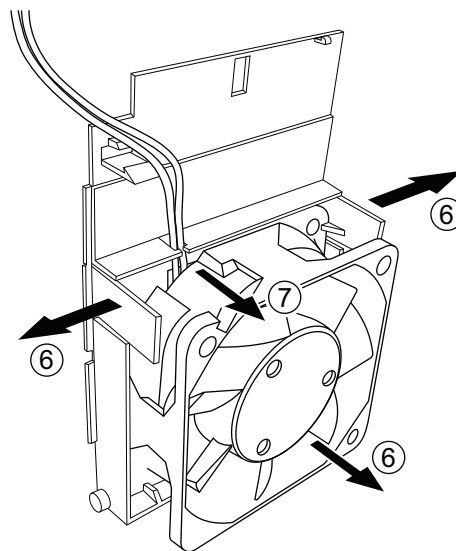

Fig. 50 — Remove Fan from Holder
6. Free the fan cable from the clip in the fan holder (see Fig. 50).
7. Remove the fan from the holder (see Fig. 50).